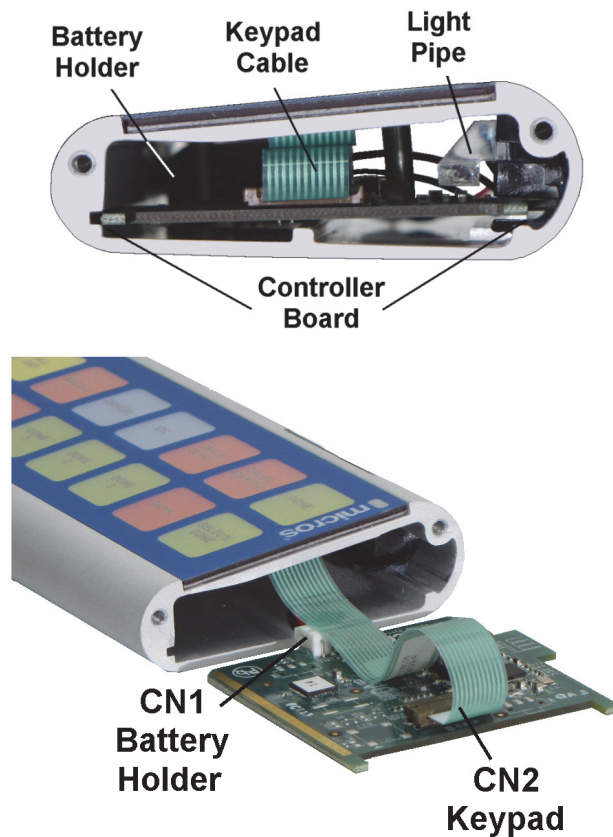

Figure 12: Accessing the MWBB Controller Board
The upper half of Figure 12, below shows the right side end-cap removed. The controller board is fitted in slots at the front and rear. The light pipe is part of the Low Battery Indicator.
1. Refer to the top half of Figure 12 and position the board in the front and rear slots.
4. When installing the board, make sure the Keypad Cable does not become bunched up around CN2. The upper half of Figure 12 shows the correct board position.